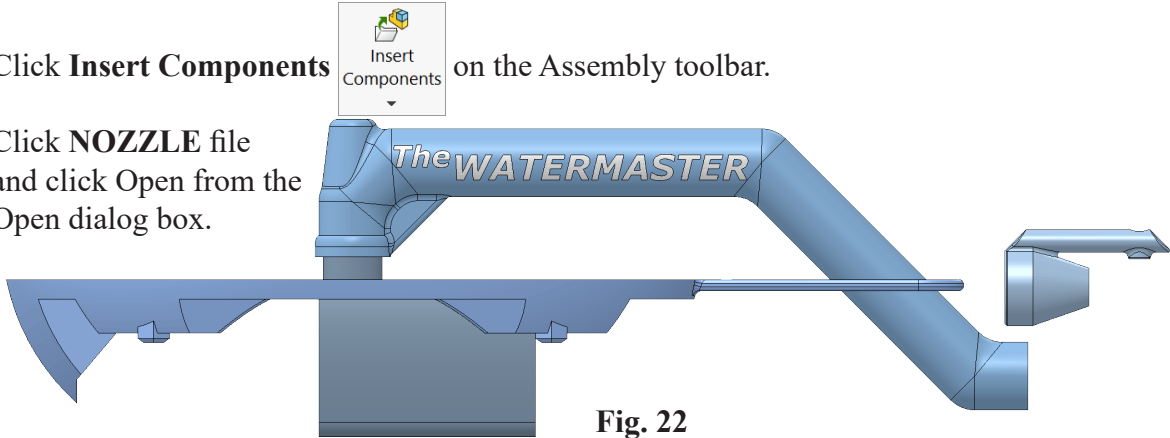

Fig. 22
Step 4. Click to place Nozzle, Fig. 22.